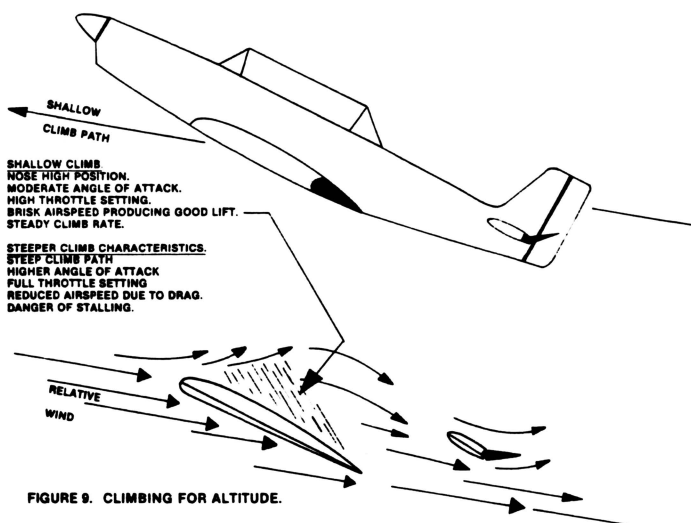

FIGURE 9. CLIMBING FOR ALTITUDE.
- (b) The second way to increase lift is to increase the angle of attack. Refer to Figure 9, which illustrates that by pulling backwards on the control column (stick), you cause the elevators to rotate the aircraft into a "nose-up" position. The angle of attack is increased, and the aircraft begins to climb for altitude. NOTE THAT THERE IS A SEVERE INCREASE IN DRAG, WITH CONSEQUENT LOSS OF AIRSPEED.